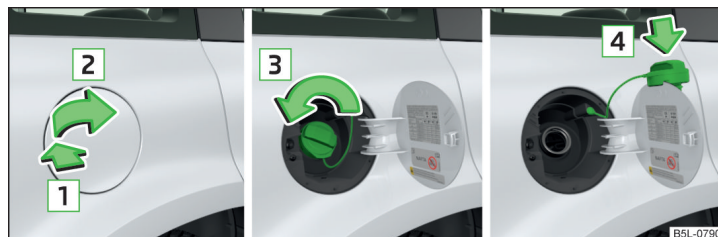

Fig. 155 Open fuel filler flap / unscrew tank cap / place the tank cap on the fuel filler flap
- Press the fuel filler flap in direction of arrow **1** and fold in the direction of arrow **2** » Fig. 155.